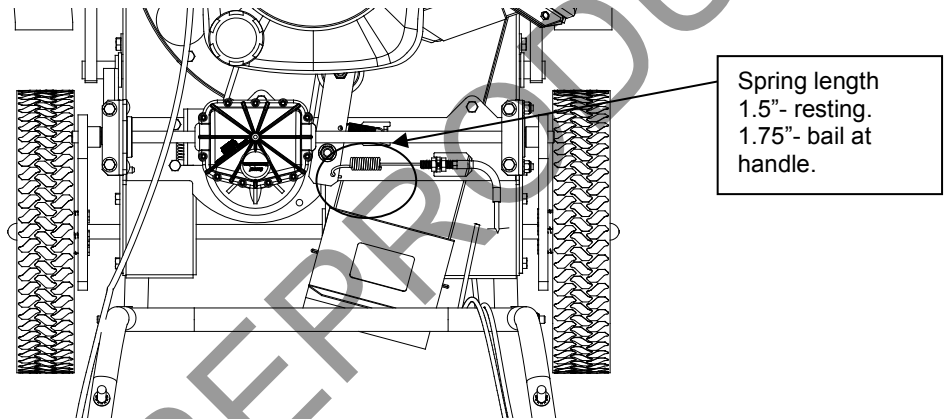

Fig. 8
5. Check the travel of the idler arm by engaging the bail. The drive should start to engage when the bail is 2 1/2 inches away from the handle. The spring, at a relaxed state should be 1 1/2 inches long on the coil, and when the bail is in contact with the handle it should be 1 3/4 inches long. If the belt is too tight it can cause premature failure and if it is too loose it can come off of the pulley. (See Fig. 8 below.)